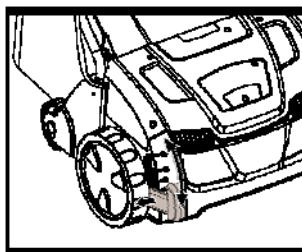

Fig. 8a
1). Push the depth adjustment lever (10) towards the wheel (11), then move it forward or backward to adjust the cutting depth. (See Fig. 8a).